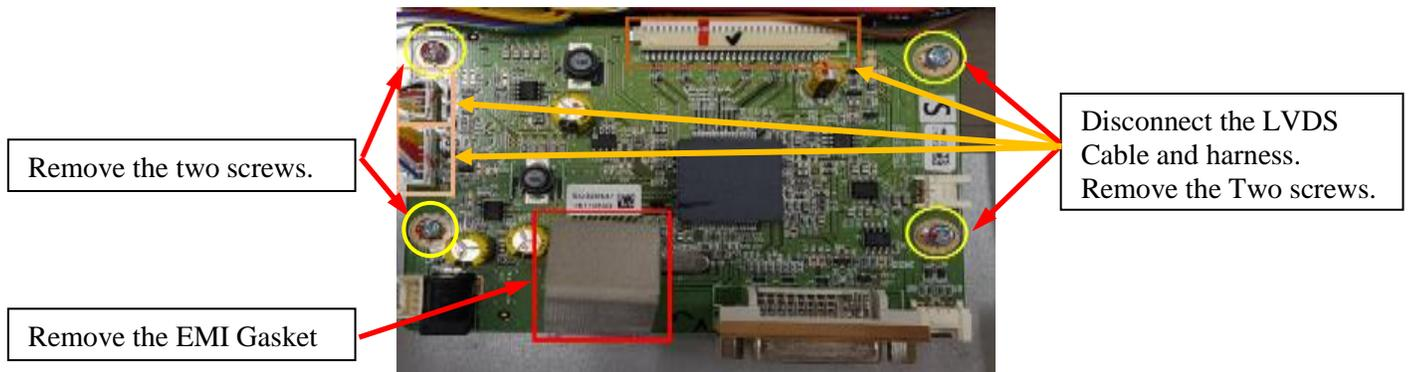

Figure 8. (69974805/KTL230DP-0x)
- 2) Locate the A/D board as shown in Figure 8, 9